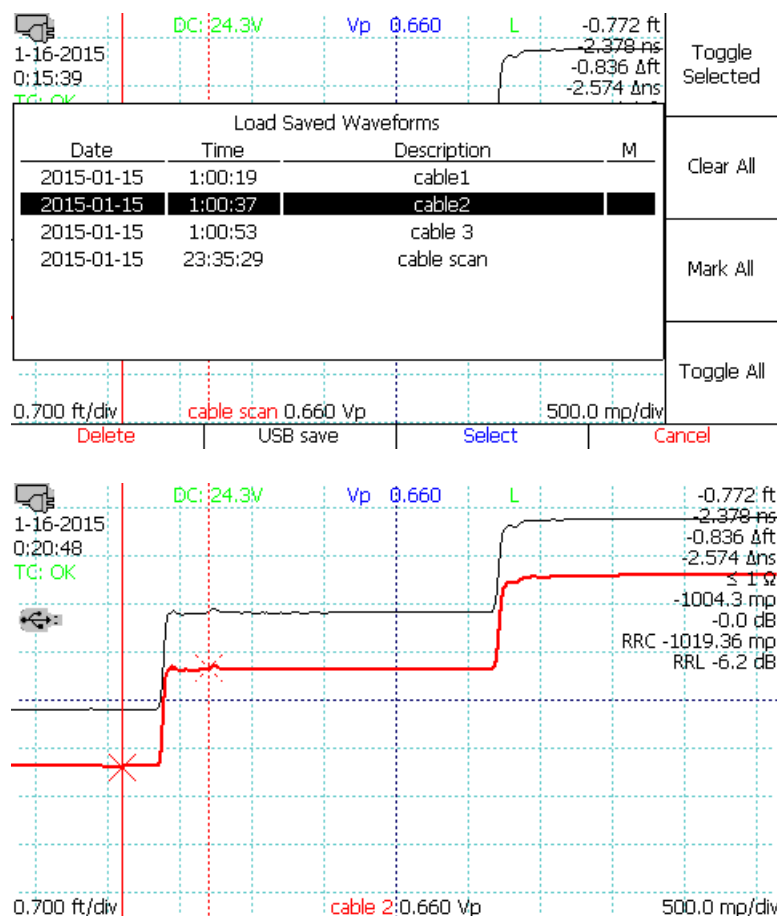

Figure 28: Loading a trace.
- 4) Press the selected menu option to load the trace. The stored trace now appears on the screen. It can be selected and manipulated the same as any scanned trace. See Figure 28 in which the loaded trace (bold) has been translated slightly downward using the *VERTICAL POSITION* knob in order to improve visualization.